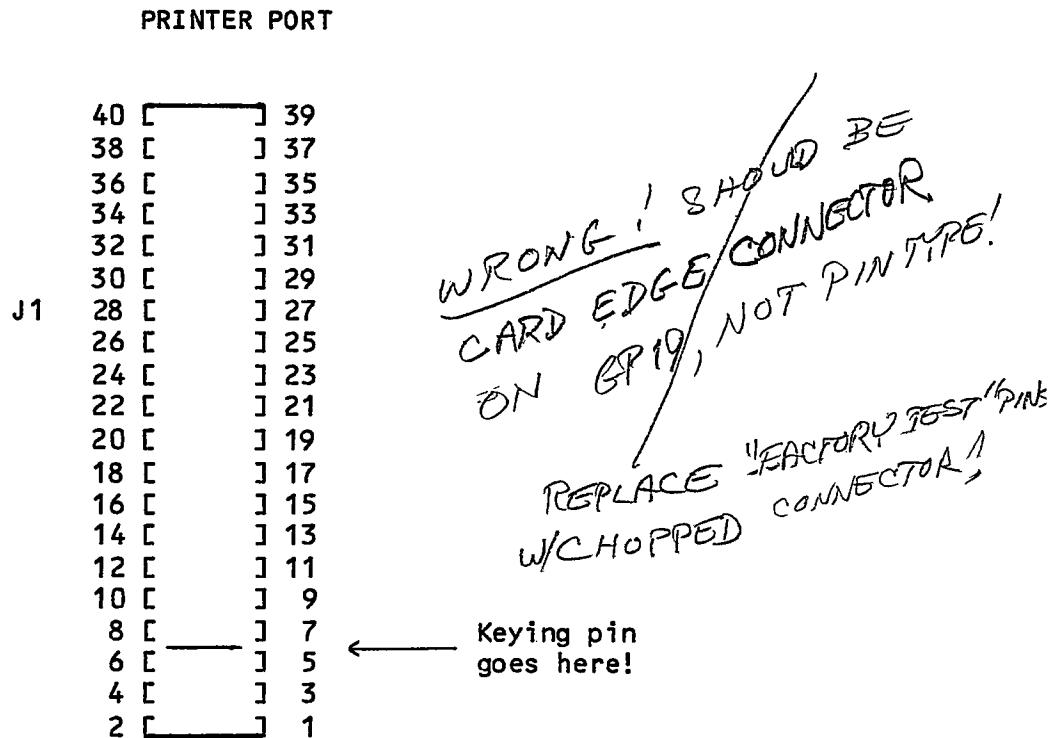

Figure 7.1 Installation of keying pin in J1 on the GP-19 board
2. Locate the small plastic keying pin. Insert it between pins 5 and 6, and pins 7 and 8 in J1 on the GP-19 circuit board, as shown in figure 7.1. Since this keying pin is so small, the use of a pair of needle nose pliers is recommended. The keying pin is intended to prevent the printer port circuit board from being installed upside down.